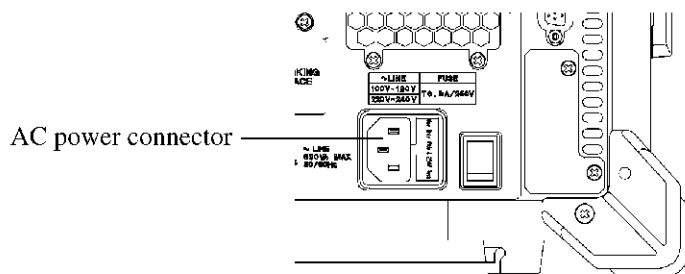

Figure 3-8 Connecting the Power Cable
2. Connect the AC power connector on the rear panel of this instrument to a three-pin power outlet that has a protected ground terminal by using the included power cable (see Figure 3-8).